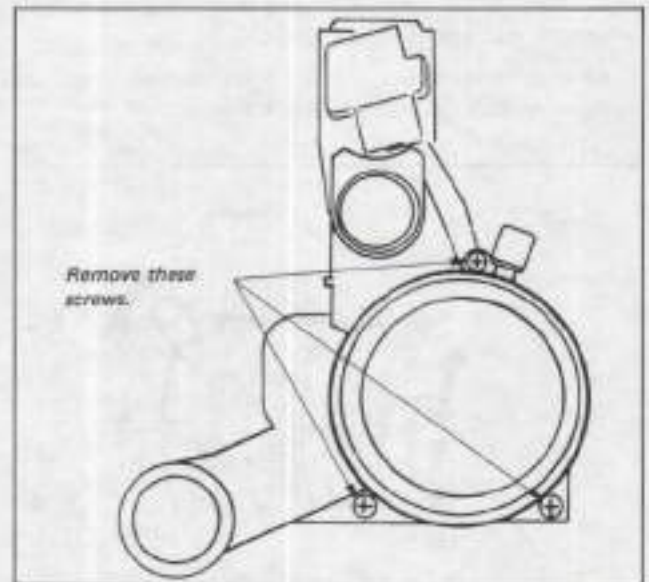

Fig. 2-40
- 3) Remove the screw holding the rear lens barrel and the rear lens barrel. (Fig. 2-40)